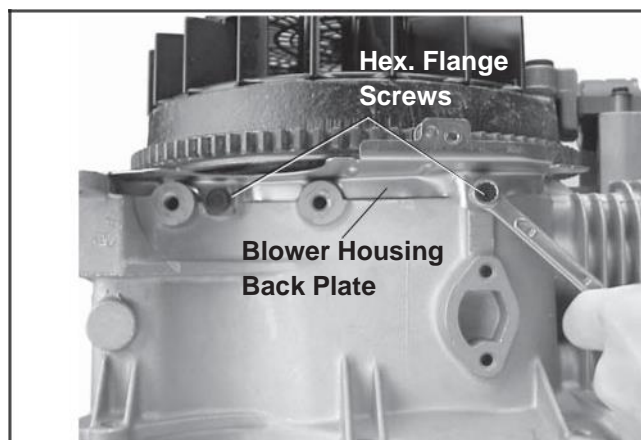

Figure 9-20. Removing Back Plate.
6. Remove the two hex. flange screws and blower housing back plate. See Figure 9-20.